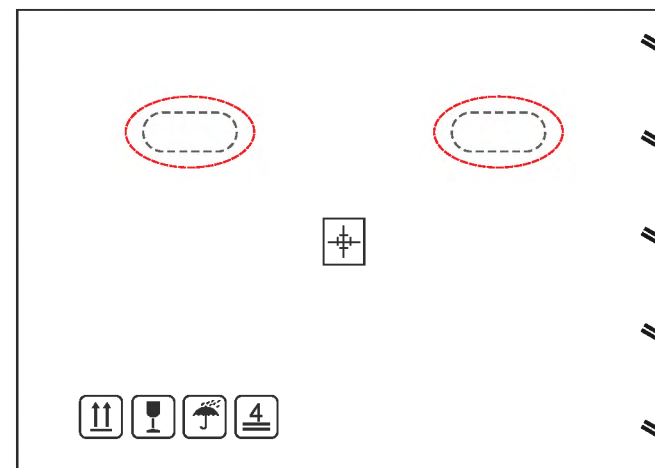

Figure 3.2 Handles used to move the inverter shown circled in red
1. The red circles below denote cutouts on the product package. Push in the cutouts to form handles for moving the inverter (see Figure 3.2).